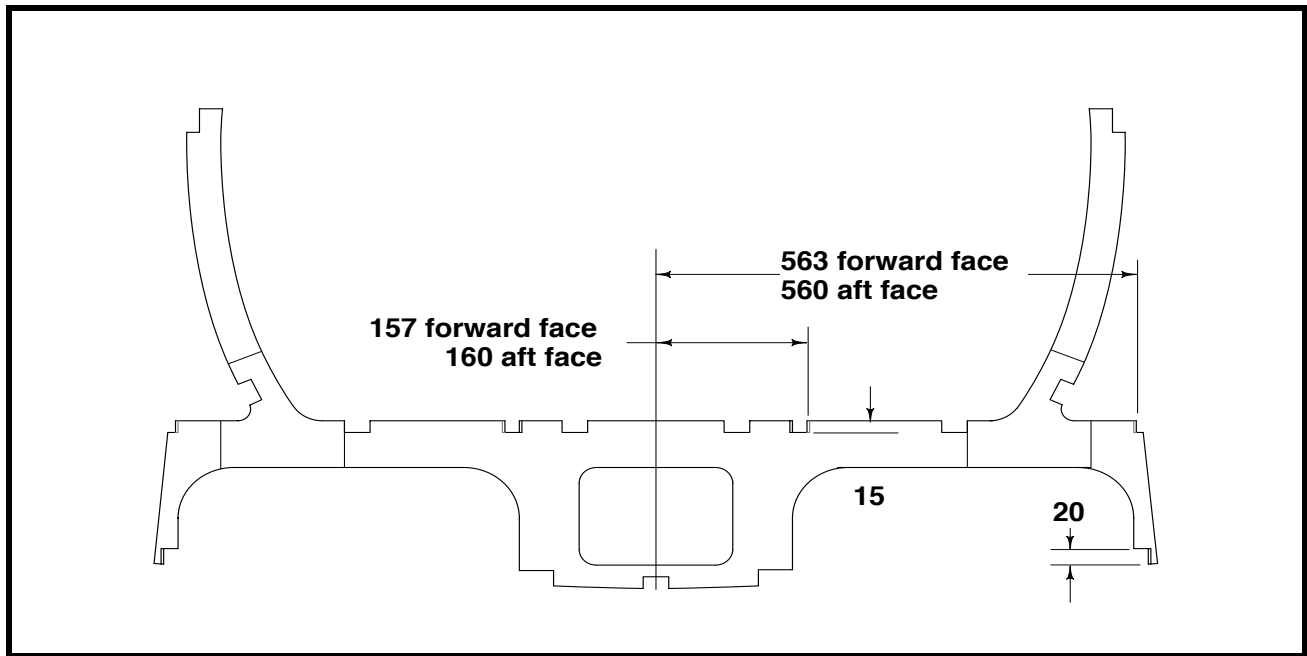

Figure 24
- ❑ For “open air” wheel well installation—cut out for four 30x15 seat track supports as shown in Figure 24. See Drawing No. 310.
- ❑ For “open air” wheel well installation—cut out for the two 20x20 spruce strips to each side of the bottom center longeron as shown in Figure 24. See Drawing No. 310. Because these cutouts are also for the wheel well rings, they are wider than the 20x20 spruce strips.
- ❑ For “open air” wheel well installation—cut the frame for the wheel well rings as shown in Figure 24. Because the rings are installed with the center of the axle—and therefore the center of these rings—forward of the frame, the slots for the rings are at an angle. The slots for the upper rings should be 15mm.